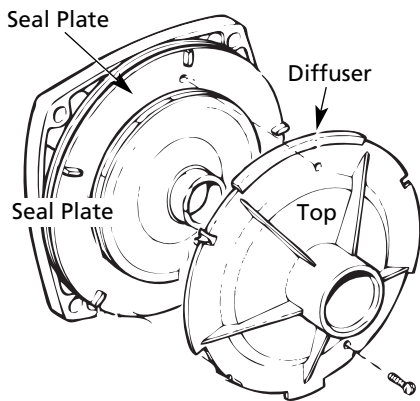

Figure 24 – Locate and Mount Diffuser
5. To reinstall, reverse steps 1 through 4. Mount diffuser as shown in Figure 24.
10. Remount diffuser on seal plate. BE SURE diffuser is right side up as follows (Figure 24).
- b. Both mounting screws must engage screw holes in seal plate (Figure 24).